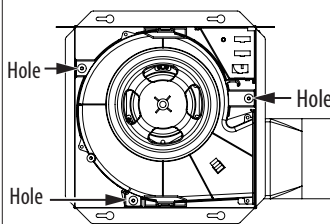

Figure 11
Insert the blower assembly into the housing and secure the motor plate to the housing with three (3) screws (Figure 11).